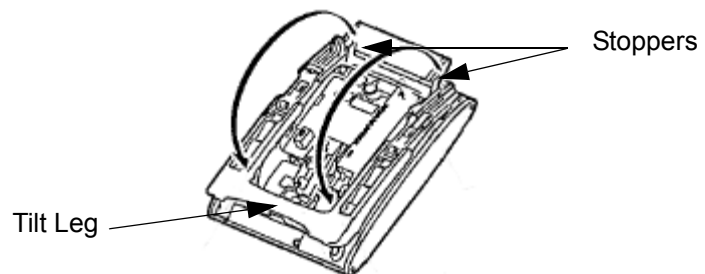

Figure 6-30 Separate Tilt Leg from Leg Support
3. Lower the tilt leg to the first position (refer to Figure 6-30 Separate Tilt Leg from Leg Support).